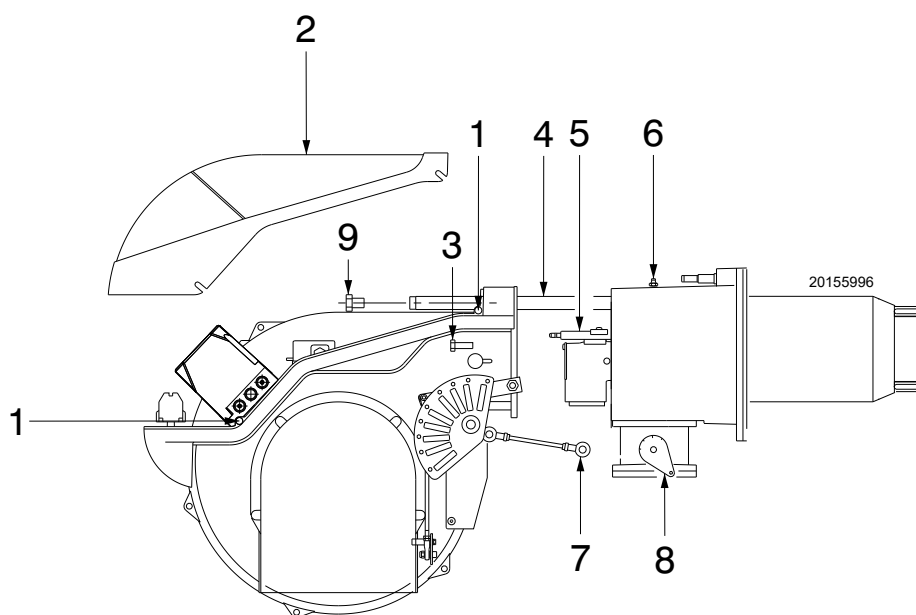

Fig. 42
Make sure the gas outlet holes for the ignition phase (in the distributor of the combustion head) are free of impurities or rust. If in doubt, remove the elbow (Fig. 42 on page 37).
- Loosen the 4 screws 1)(Fig. 42) and remove the cover 2).
- Replace the screws 3)(Fig. 42) and carefully pull the probe and electrode cables outwards until they are slightly taut.